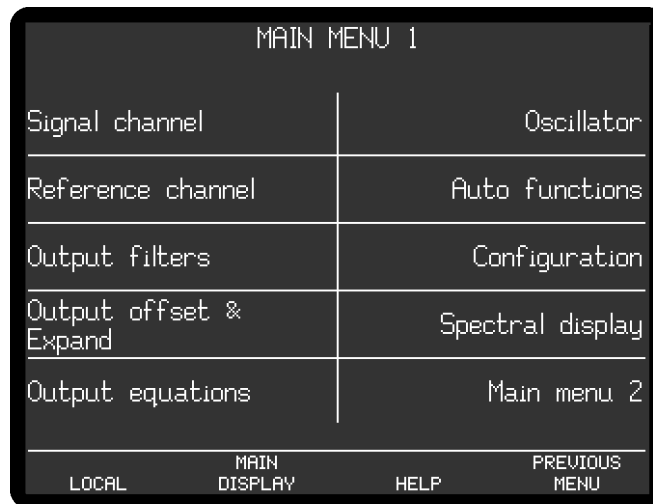

Figure 2-7, Main Menu 1
- 3) Wait until the opening display has changed to the Main Display and then press the key under the bottom right hand corner of the display identified by the legend MENU on the display once. This enters the first of the two main menus, Main Menu 1, shown below in figure 2-7.